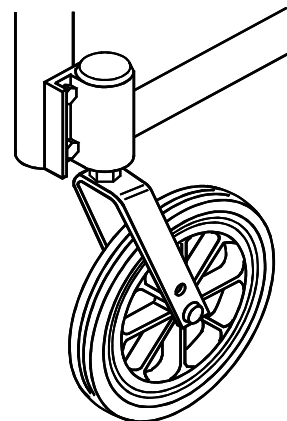

Fig. 43
The castor plate (Fig. 43) is generally mounted in a forwards facing position (1). However, if additional footrest clearance is necessary, the castor housing can be reversed (2), by moving the left housing on to the right side of the frame, and the right housing on to the left side of the frame. After reversing the castors follow the procedure for castor angle adjustment to reset the angle of each castor.